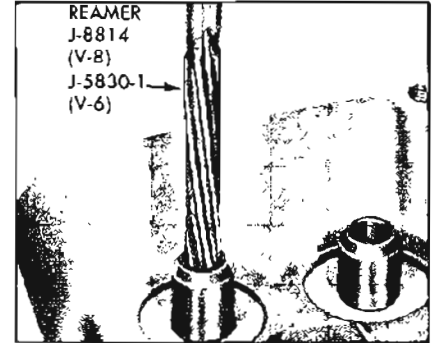

Figure 2-67—Reaming Valve Guide
8. If valve stem has too much clearance in its guide, the guide should be reamed to .004" oversize using J-5830-1. The Parts Department stocks .004" oversize valves for replacement purposes. See Figure 2-67.